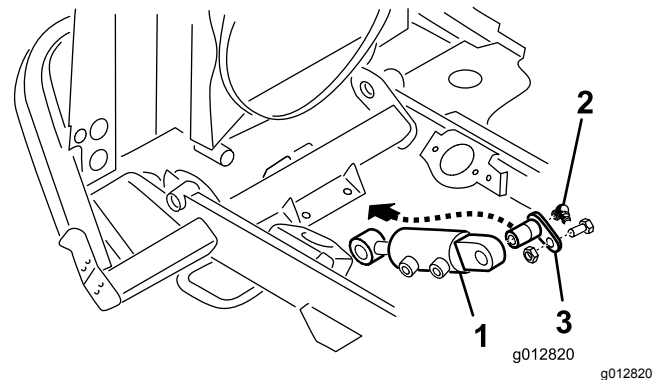

Figure 11
6. Mount the stationary end of the hydraulic cylinder to the underside of the frame cross-member bracket with a pivot pin (Figure 11).
7. Thread a grease fitting into the end of the pivot pin (Figure 11).